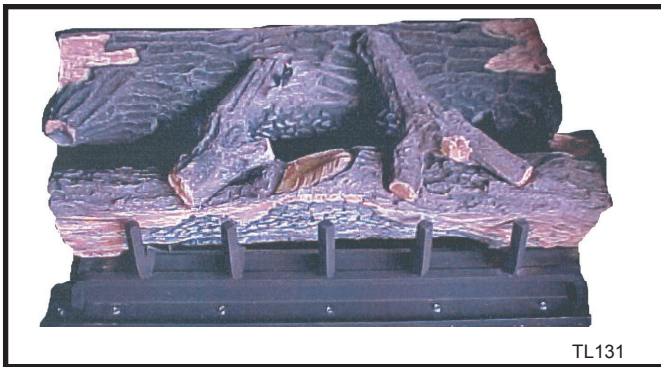

Fig. 33 Correct log placement for the DV52MBN.
5. Top twigs can then be placed in their designated positions provided with pins on back logs, and grooves on the center log. (Fig. 33)